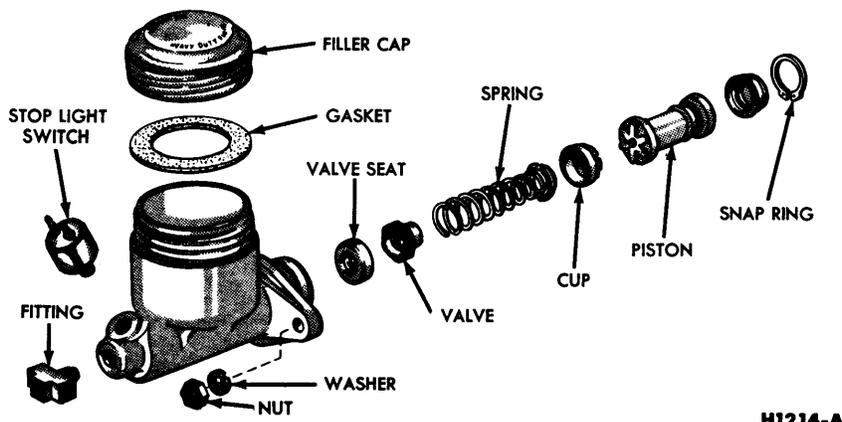

FIG. 3—Brake Master Cylinder Disassembled
2. Remove the stop light switch, and the fitting from the forward end of the cylinder (Fig. 3).
2. Install the brake fitting and new gaskets (Fig. 3) on the forward end of the cylinder.